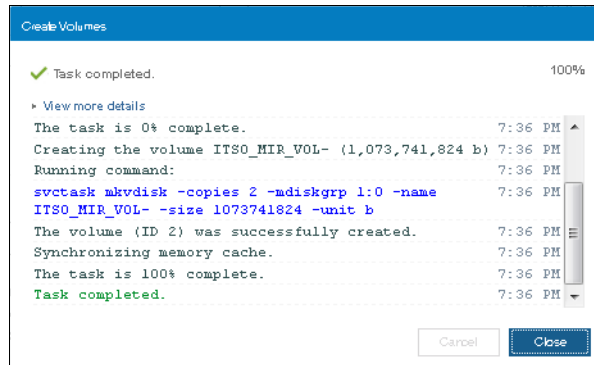

Figure 6-18 Task complete: creating Mirrored volume
3. Next, the GUI displays the underlying CLI commands being run to create the mirrored volume and indicates completion as shown in Figure 6-18 on page 290.